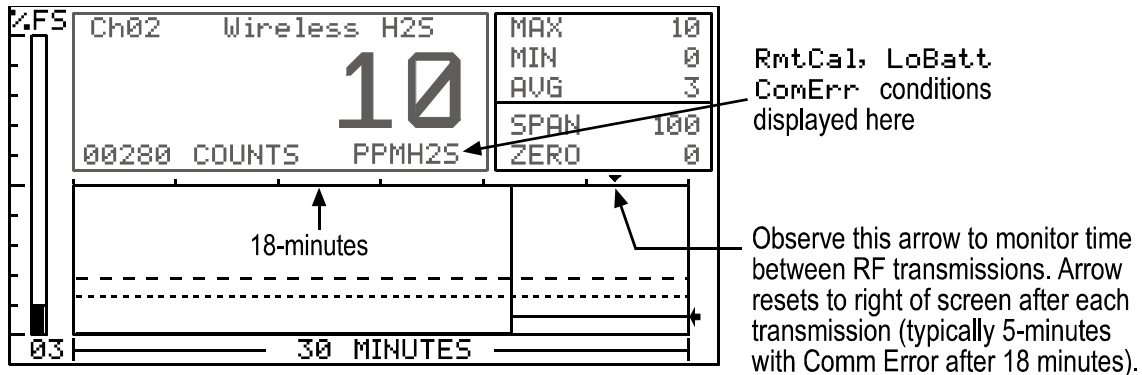

Figure 8.4
- **Communications Error** – Each channel’s 30-minute trend screens (Figure 8.4) are very useful for diagnosing wireless problems since it indicates amount of time since the most recent transmission was received. The down arrow on top of the trend screen resets to far right each time a transmission is received by that channel. When not in alarm, GDX-350 RFs transmit each 5-minutes so the arrow should never progress past the 5-minute interval. The GDA-1600 activates the channel’s FAULT alarm and indicates ComErr if no transmission has been received in 18 consecutive minutes.